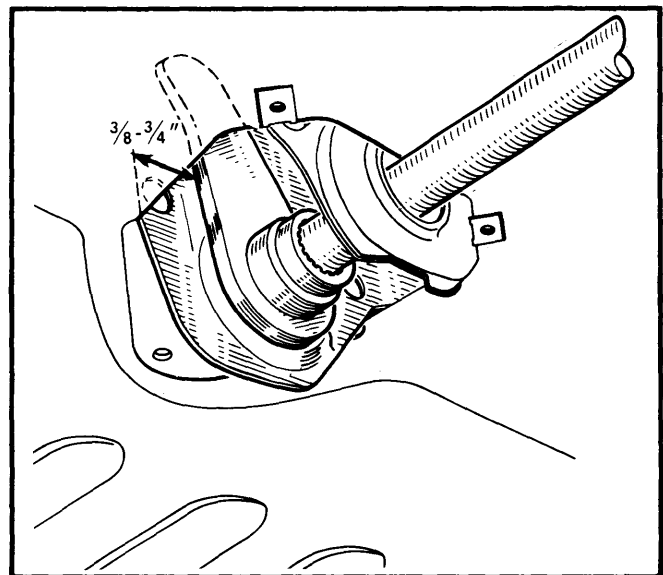

Fig. 5 Position of Adjusting Lever
2) Place adjusting lever $\frac{3}{8}$ - $\frac{3}{4}$ " (10-20 mm) as shown in Fig. 5. Insert wrench 545 (or equivalent) and take up tension on bar. Center the cover by resetting cam. Hold assembly with vise grips and insert mounting bolts. Adjust under body height by turning adjusting cams.